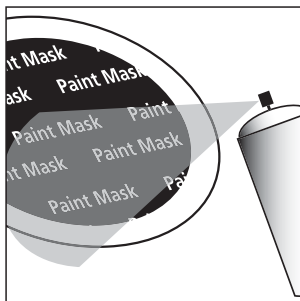

Figure 7—Mask the drivers and baffles, then spray paint in thin coats.
1. Apply paint to exposed (unmasked parts). Use two or more thin coats. Spray painting is recommended (figure 7).